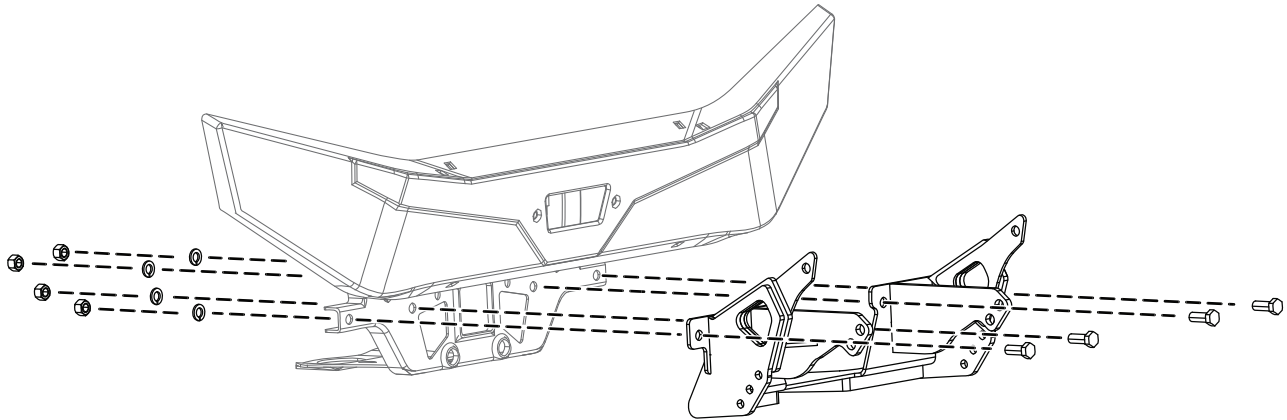

Figure 1
3. Loosely secure the top of the undercarriage skid plate to the vehicle frame using 4 bolts (M12 x 1-3/4 inches), 4 lock washers, and 4 nuts (Figure 1).